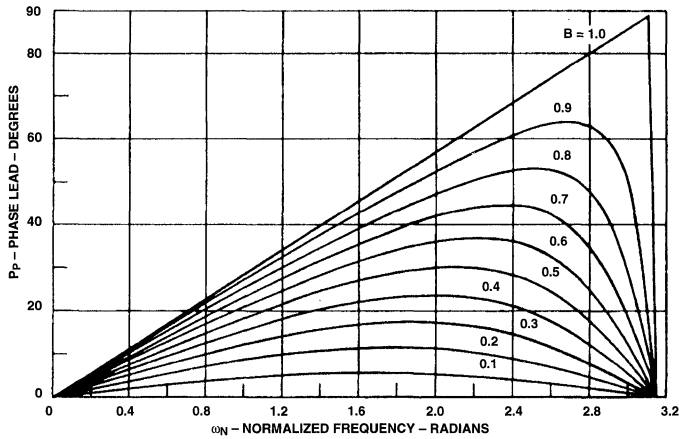

Figure 7. Phase Lead Contribution of the Pole Term.
The combination method is a graphical analysis technique that can be used to design HCTL-1000's digital compensator filter. The four graphs shown in Figures 7, 8, 9, and 10 are employed by the combination method to show the phase of digital filter's pole [P_P(ω_N)], the phase of digital filter's zero [P_Z(ω_N)], the magnitude of the digital filter's pole [M_P(ω_N)], and the magnitude of the digital filter's zero [M_Z(ω_N)]. Note that the magnitude and phase for both the pole and zero terms are plotted on individual graphs. The combination method employs these plots to determine values for the pole (B), zero (A), and gain (K) that will provide the required phase lead and gain for the desired closed loop system response to a step input over a